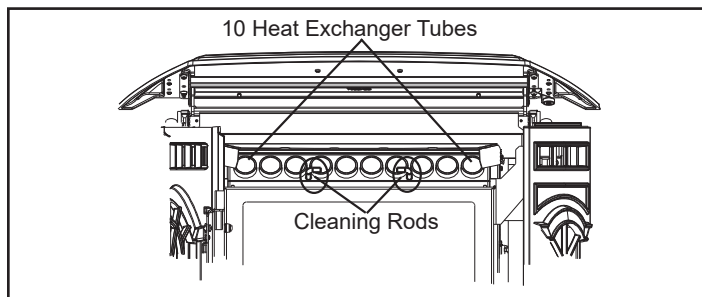

Figure 20.1
- b. Locate the 2 exposed rods directly underneath the heat exchanger tubes (**Figure 20.1**).